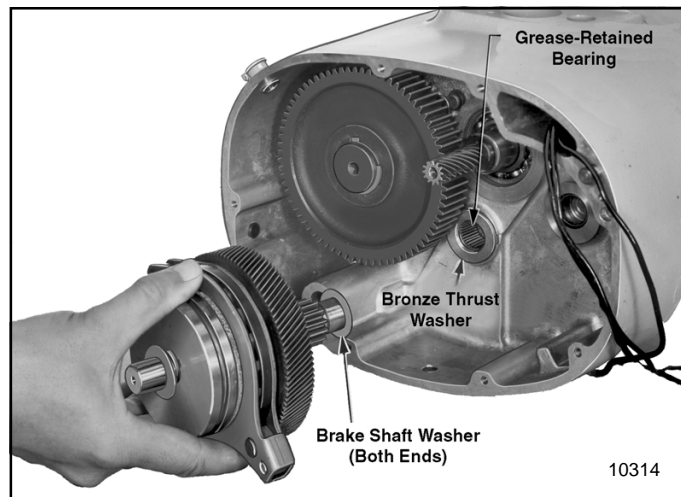

Figure 7-7. Removing Load Brake and Clutch Assembly (1/4 & 1/2 Ton Hoists)
(1) On 1/4 thru 1/2 ton hoists, pull load brake/clutch assembly if equipped or overload clutch assembly and the shaft washers from inside hoist frame (fig. 7-7). Caution: Grease-retained bearing has 36 rollers (all capacities) and may be reinstalled unless rollers are broken or missing or cup is damaged.